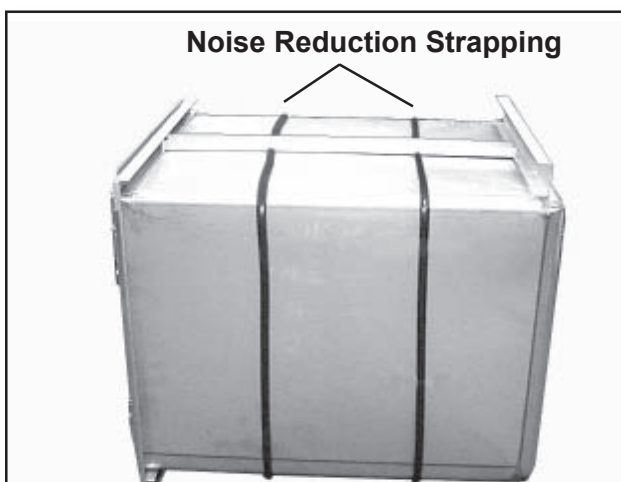

Figure 29. Noise Reduction Strapping on a Regal Cage
3. Press the strapping onto the cage. Use two strips per cage, spaced so that the cage is divided approximately into thirds, front-to-back (Figure 29).